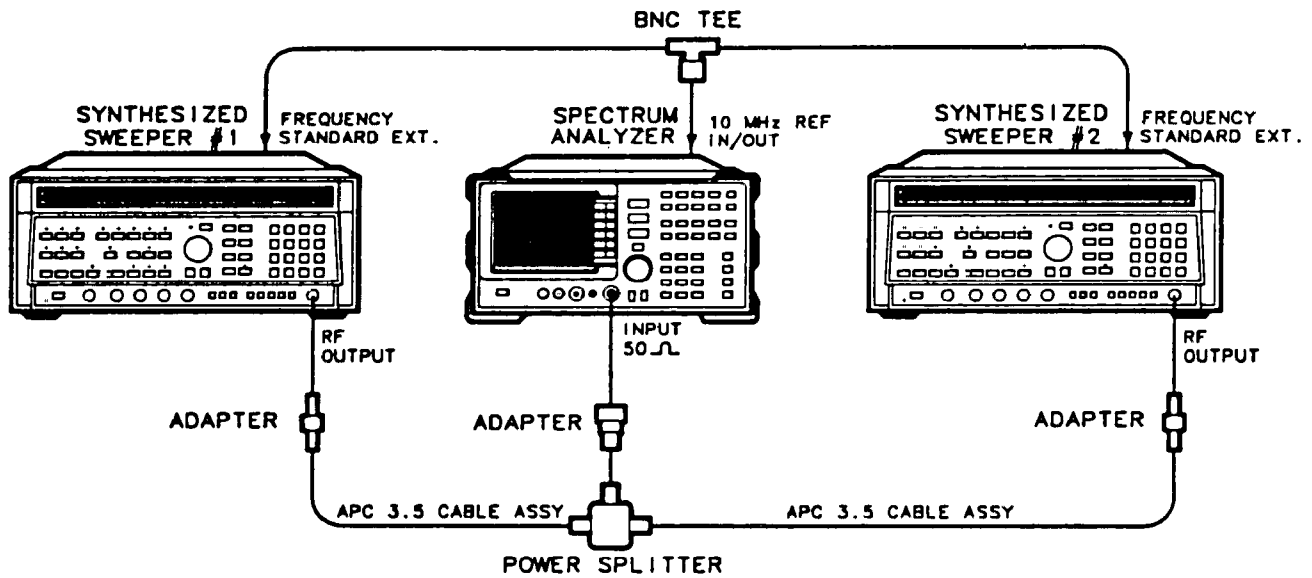

Figure 3-18. Frequency Span Accuracy Test Setup
1. Connect the equipment as shown in Figure 3-18. Both HP 8340As should be set for EXT FREQUENCY STANDARD. Connect the power splitter directly to the analyzer's INPUT 50Ω. Do not use a cable.